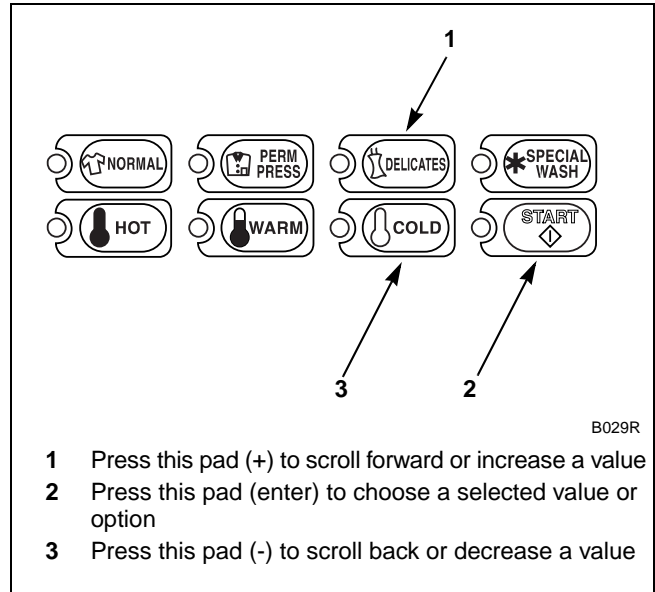

Figure 83
5. Press the DELICATES (+) or the COLD (-) keypad to increase or decrease the current number of minutes displayed in the VFD to the desired number of minutes. Refer to *Figure 83*.
**NOTE: The Delicates Rinse Extra Fill/Tumble Time can be set from zero (0) to 15 minutes.**